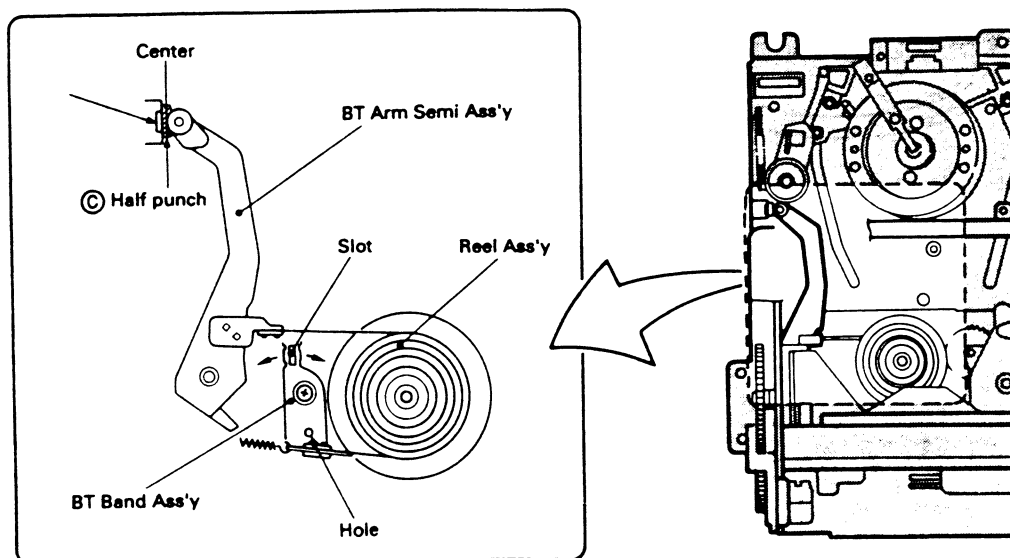

Fig. 2
2. ADJUSTMENT OF THE BT TORQUE IN THE PLAY MODE (Fig. 2)